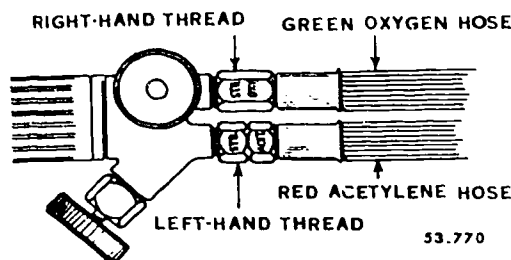

Figure 6. Connecting the Hoses and Torch
4. Attach the welding hose to the reverse-flow check valves and tighten securely (see figure 6).